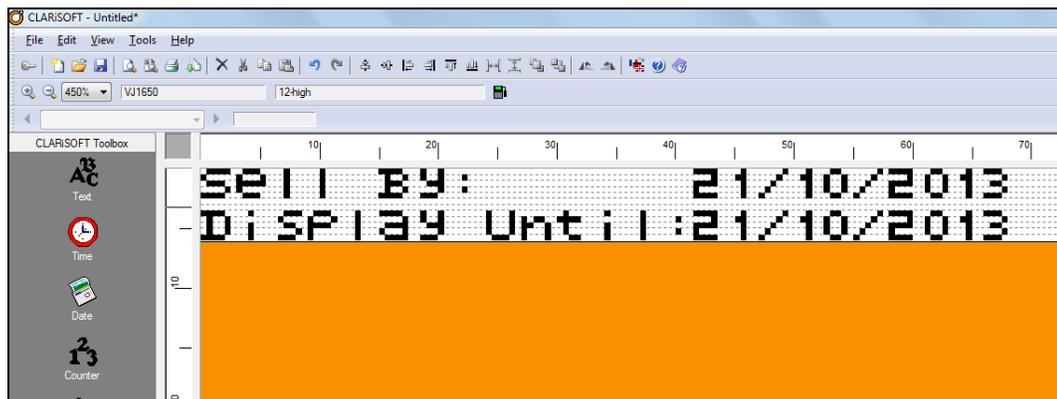

Figure 6-11: Date Field Image
- 5 Create a date field to the right of 'txtDisplayUntil' and name this field as 'dtDisplayUntil' in the *General* tab. Leave all other parameters as default for now. The image design area should look like Figure 6-11.